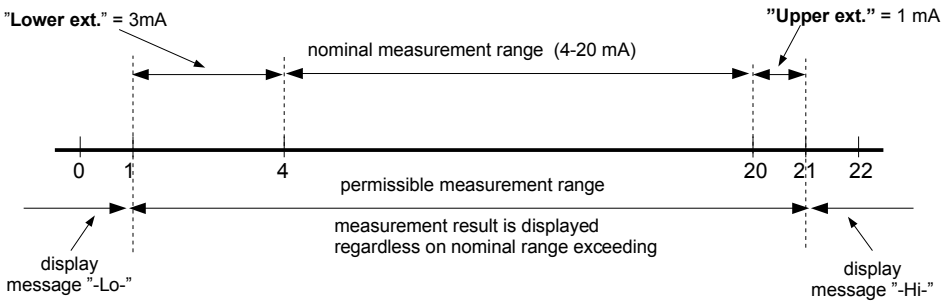

Fig. 7.21. Defining permissible measurement range for an example of settings of **"Upper ext."** and **"Lower ext."** parameters (for nominal measurement range 4-20 mA)
**"Upper ext."** - parameter defining the allowable range of input currents (Fig. 7.21).